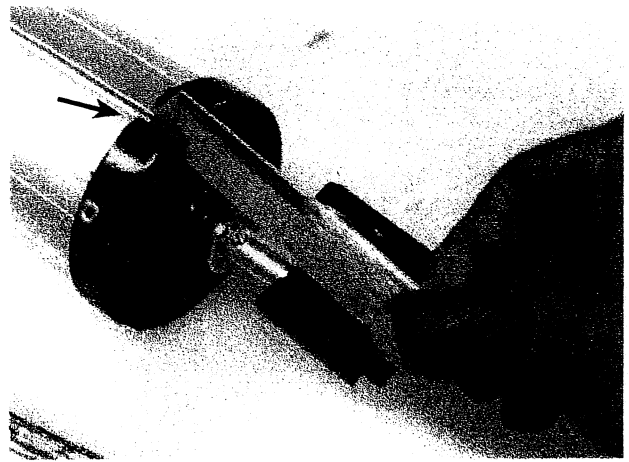

FIG. 2
2. Using a hacksaw or file, cut a slot in outer edge of end cap down to the drilled hole. This will enable you to slide the rope in the hem of the valance into and out of the roller tube channel without removing the end cap. **SEE FIG.2**